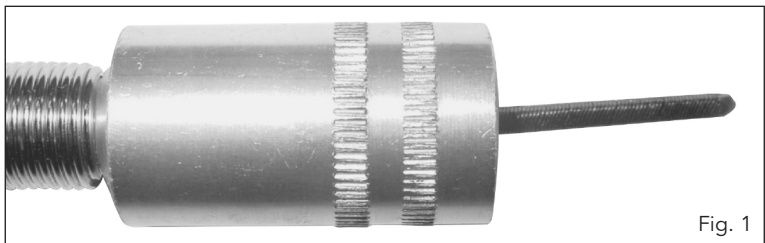

Fig. 1
1. Remove the Shaft Collar (3).
2. Hold the handle (11) of the flexible shaft in one hand and the fitting collar (12) of the flexible shaft in your other hand the collar of the flexible shaft in your other hand.
3. Raise the handle (11) end of the flexible shaft and shake gently. This will assist the flexible shaft to become detached from the outer shaft and protrude from the fitting collar. See Figure 1.